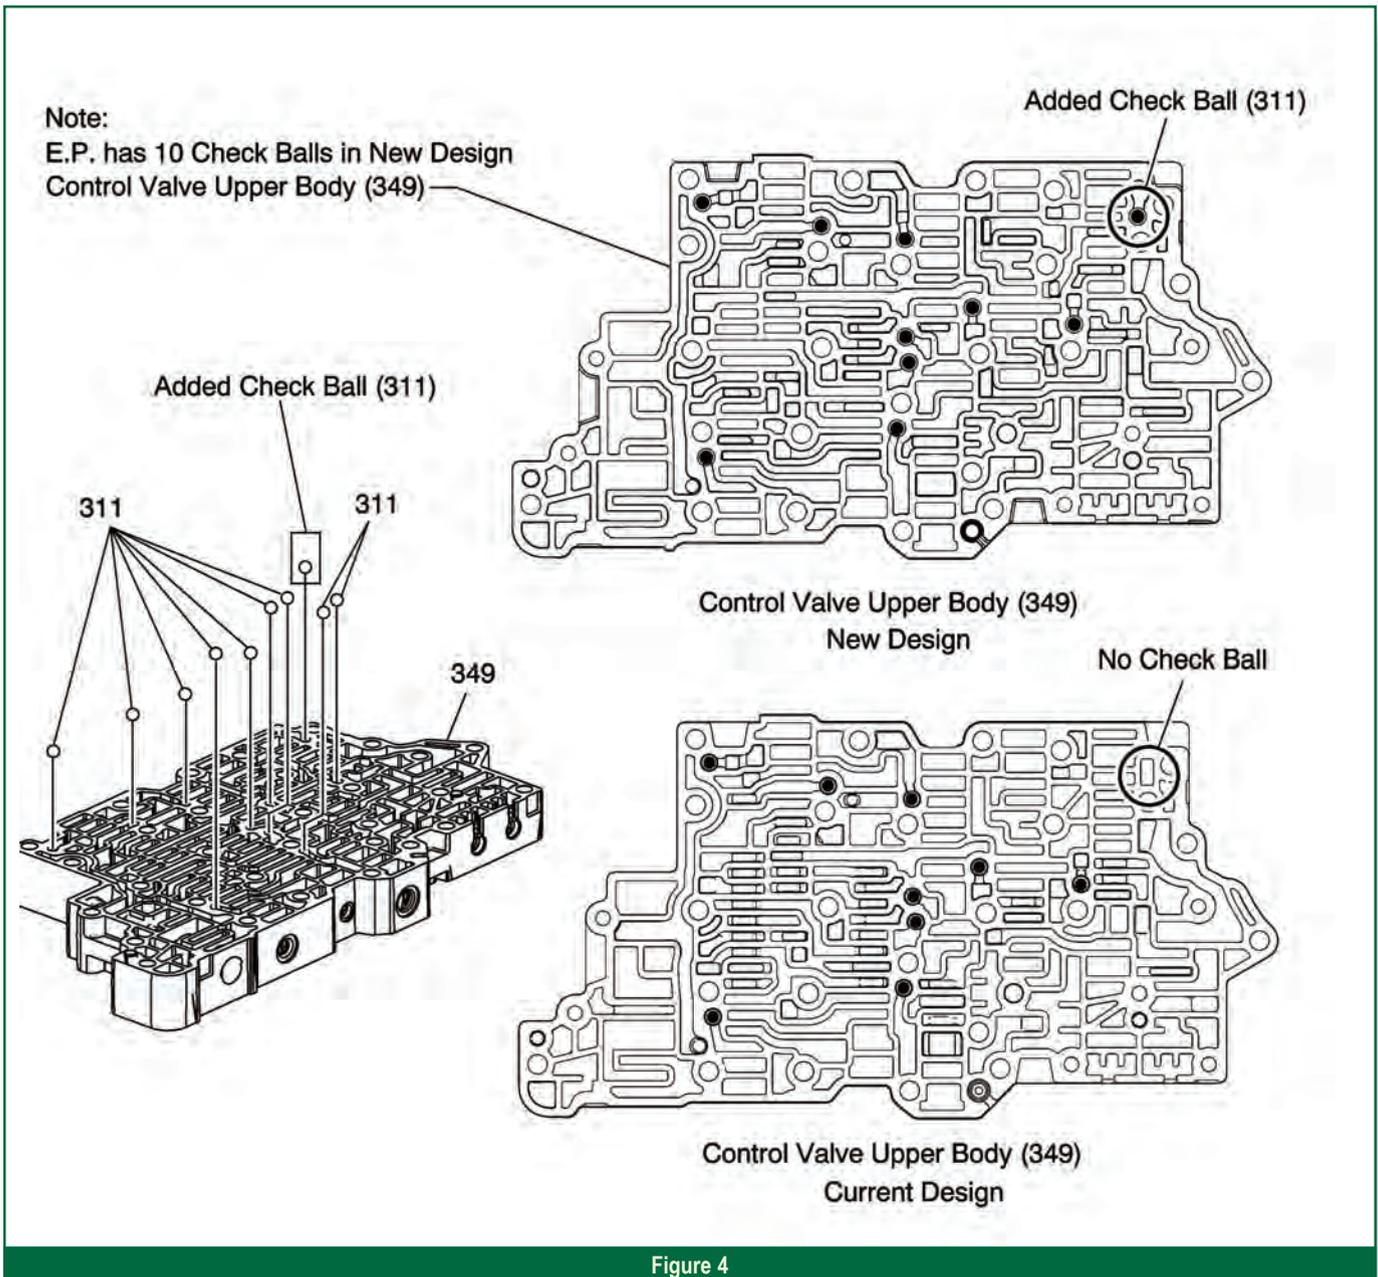

Figure 4
- Three actuator feed accumulator pistons and springs were added to the valve body (Figure 4).